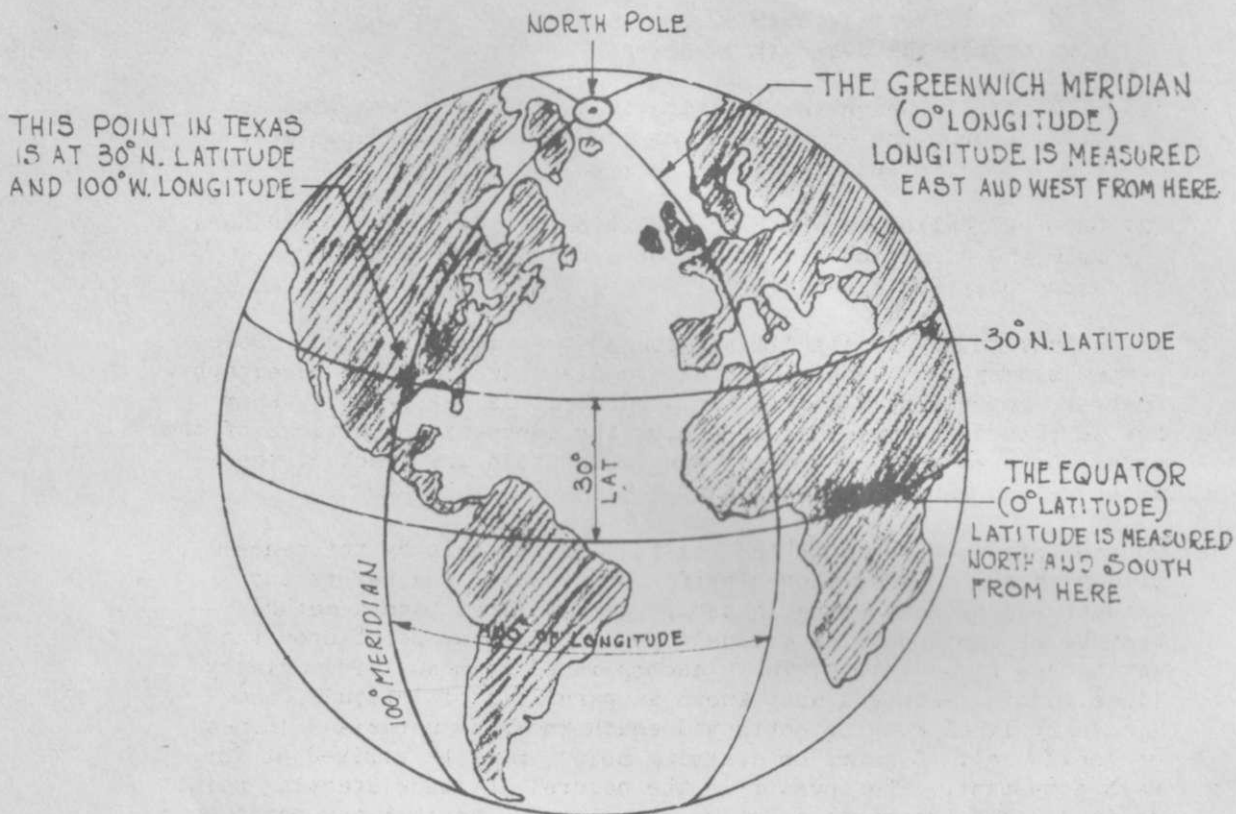

FIGURE 3
- (1) PILOTING, in which the position is ascertained from visible objects upon the earth, or from soundings of the depth of the sea.
- (2) DEAD RECKONING, in which the position at any moment is deduced from the direction and amount of a vessel's progress from a known point of departure."
- (e) Mention has been made of "the position of the ship by reference to the earth." To further clarify the picture, and before any attempt can be made at navigation, we must first have a method whereby we can locate or define a position at any point upon the earth (see Figure 3). This is accomplished by means of imaginary lines running east and west known as parallels of latitude, and imaginary lines running north and south known as meridians (Lines of longitude). A zero, or starting point, must be arrived at for each component. The equator is the natural latitude starting point as it divides the earth into two equal parts, so that any point on the equator is zero latitude. Proceeding north you pass 10° north latitude, 20° north latitude, and so on until you reach 90° north latitude which will be the north pole. Likewise, proceeding south from the equator the degrees of south latitude increase until you reach 90° south latitude which will be the south pole. Since there is no natural starting point for measurement of longitude, an arbitrary meridian passing through Greenwich, England was chosen. Any point on that half of the meridian which passes through both poles and Greenwich/ is zero longitude. When traveling east of Greenwich, the longitude increases until 180° east longitude is reached. Likewise, when travelling west of Greenwich, the longitude increases until 180° west longitude is reached. 180° east or west longitude will be on the half of the meridian on the opposite side of the earth from Greenwich. By means of latitude and longitude, we can now position ourselves at any point on the surface of the earth merely by stating whether latitude is North or South, longitude is East or West, and how many degrees, minutes, and seconds each contains. Examples:
(Illustrated in Figure 3)